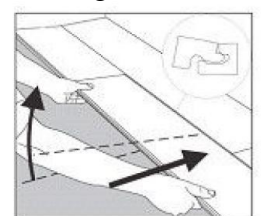

Figure 3
9. Begin the second row with the cut piece from the first row (Figure 3). If the cut piece is shorter than 20 cm (8”), do not use it. Instead, begin with a new plank that is at least 20 cm in length and allows 20 cm between the end joints on the adjacent planks.
13. Install the remaining planks and rows in the same manner (**Figures 3 & 4**).